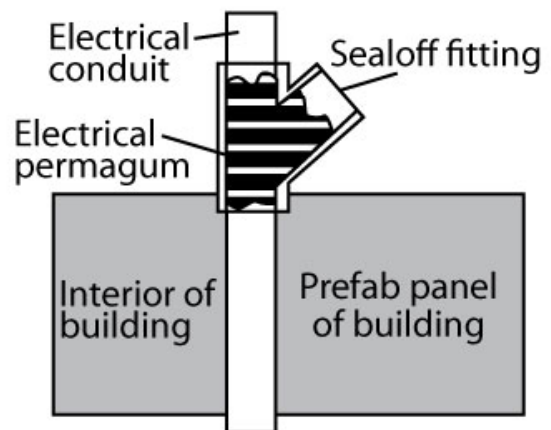

Figure 17
- Condensation in electrical junction boxes is caused by warm vapor passing from the exterior to the interior of the Walk-In through electrical conduit lines. This problem can be eliminated by installing a seal-off fitting in the conduit line where it passes through the wall. Install the fitting as shown in Figure 17 and fill it with sealant.